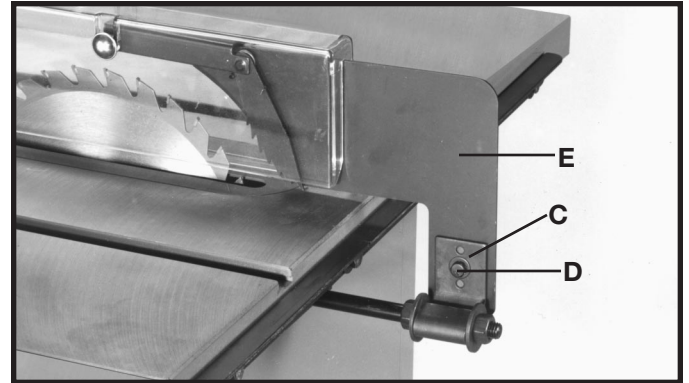
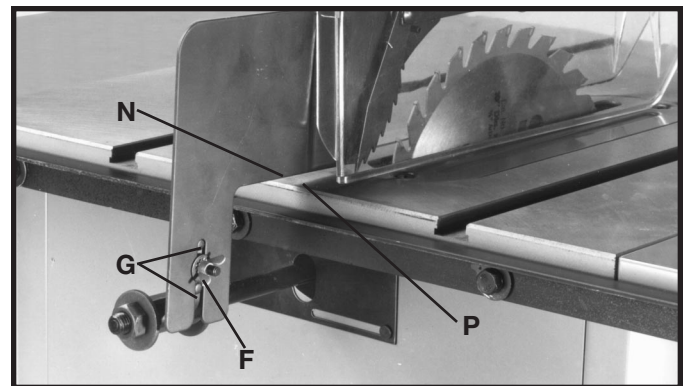

Fig. 27
Fig. 28
7. Align the hole in the blade guard and splitter assembly (E) Fig. 27, with the hole in the splitter bracket (C). **NOTE:** Make certain the two protrusions, "pins" (G) Fig. 28, are engaged with the channel of the splitter assembly.
8. Place a 1/4" external tooth lockwasher and a 5/16" lockwasher onto a M6x1x20mm hex head screw. Insert the hex head screw (D) Fig. 27, through the hole in the support bracket, and through the slot in the blade guard/splitter assembly.
9. Place a 1/4" external tooth lockwasher and a 5/16" lockwasher onto a M6x1 hex head screw (D) Fig. 27. Thread a M6x1 wing nut (F) Fig. 28, onto the end of the hex head screw.
10. **NOTE:** Before tightening wing nut (F) Fig. 28, make certain there is at least a 1/8" gap between the bottom edge of splitter (N) and top surface of table (P).